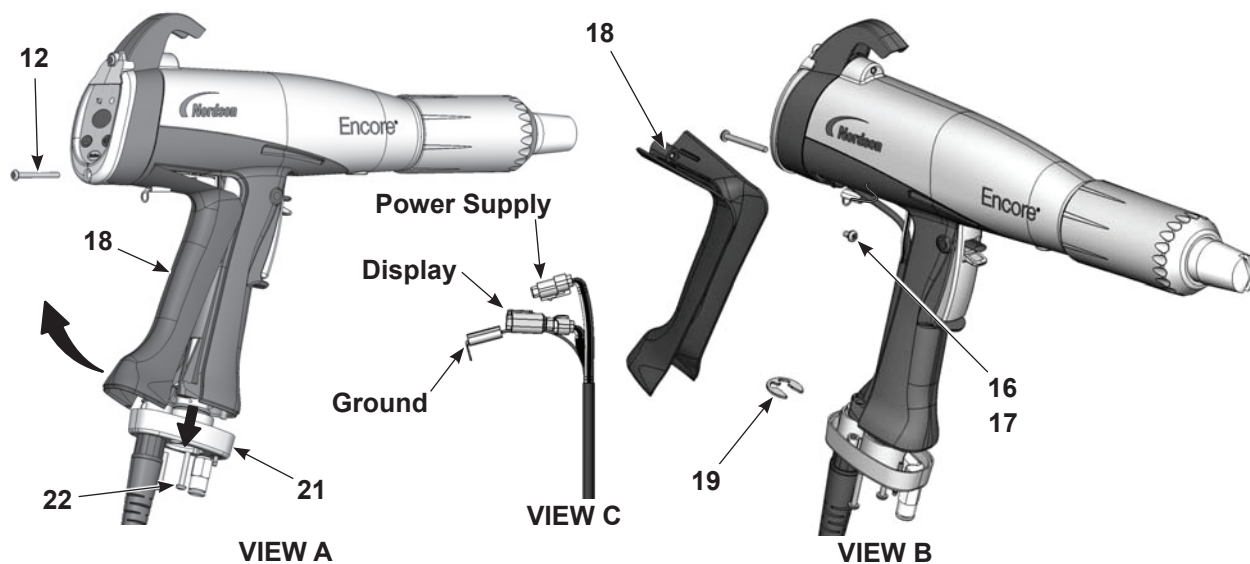

Figure 6-7 Cable Replacement
2. See Figure 6-7, View A. Remove the two M3 x 20 screws (22) securing the handle base (21) to the handle.
3. Remove the lower M3 x 35 screw (12) from the display module.
4. Pull the base away from the handle enough to free the bottom edge of the ground pad (18) from the base.
6. See Figure 6-7, View B. Remove the M3 x 8 screw, lock washer (16, 17), and ground terminal from the ground pad.
7. Remove the retaining ring (19) from the cable.
8. See Figure 6-7, View C. Pull the cable connectors out of the handle. Insert a small flat-bladed screw driver in the slots of the power supply and display connectors to release the catch and disconnect them.
1. See Figure 6-7. Feed a new cable through the handle base, then install the retaining ring (19) on the cable to hold it in place.
3. Connect the cable terminal to the ground pad (18) with the M3 x 6 screw and lock washer (16, 17).
6. Push the handle base (21) up against the handle and ground pad, and tighten securely the two M3 x 20 screws (22) in the base.
7. Re-install the M3 x 35 screw (12) in the bottom of the display module.